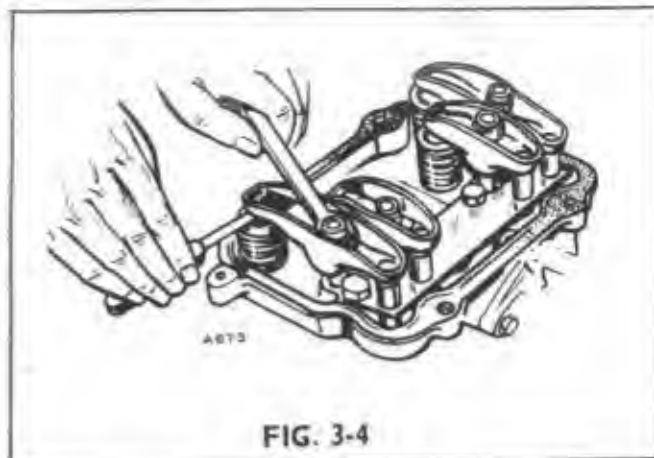

FIG. 3-4
4. Using a feeler gage, check the clearance between the rocker arm and the valve (see Fig. 3-4). Increase or reduce the clearance until the proper gap is established. Valve clearances are given in the Maintenance Section.